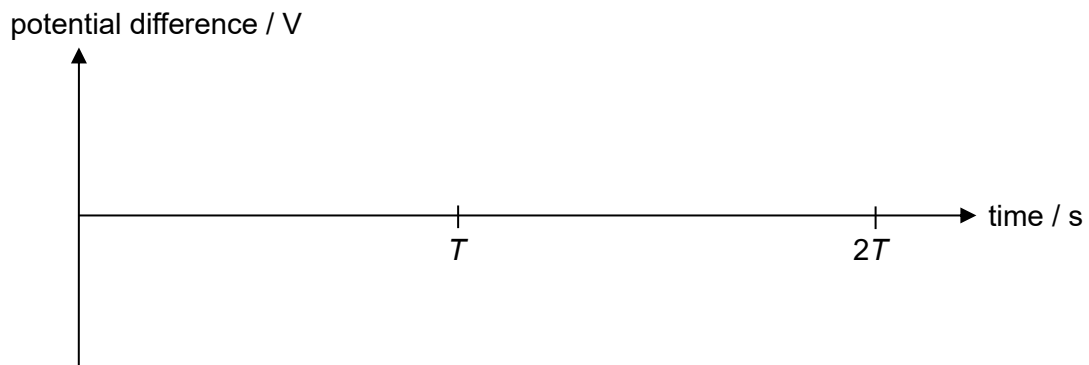

Fig. 7.3
- (ii) Sketch, on Fig. 7.3, the variation of potential difference across the electric motor with time. Numerical calculation is not required.